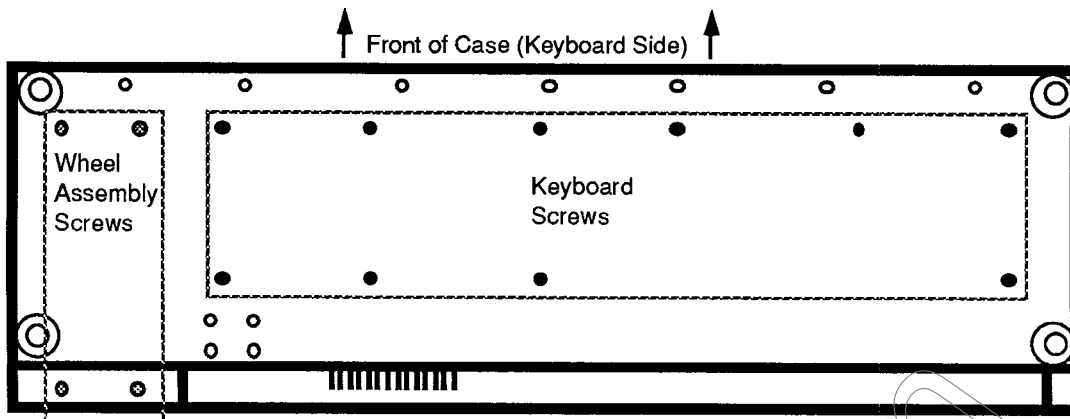

FIGURE 12 - Bottom of Case
3. Place the unit upside down on a soft surface and remove the ten (10) screws that attach the Keyboard to the case. See **Figure 12** for location of screws.
3. Place the unit upside down on a soft surface and remove the four (4) screws that attach the Wheel Assembly to the case. See **Figure 12** for location of screws.
3. Turn the unit over, top down, and remove the four (4) screws that attach the Wheel assembly to the case. See **Figure 12** for location of screws. Return the unit to an upright position and raise the control panel. Carefully lift the wheel assembly out of the case.
5. Remove the four (4) screws and star washers that attach the Disk Drive to the wheel assembly.
6. Carefully slide the Disk Drive out of the wheel assembly. Remove the two (2) screws and star washers that attach the metal plate to the bottom of the Disk Drive.